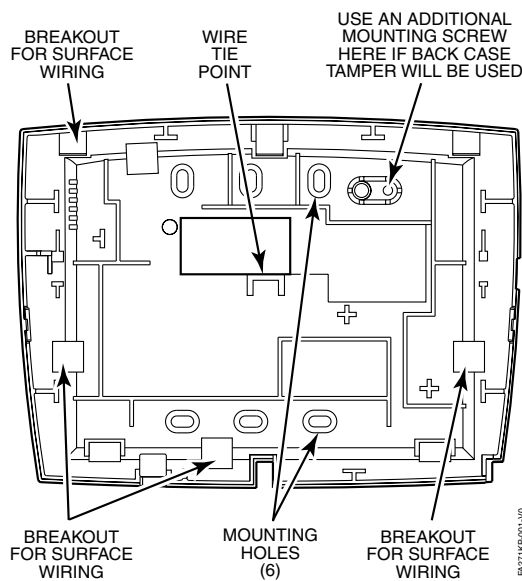

Figure 2. Wiring Entry (Case Back)
For tamper protection, an additional mounting screw must be used in the case back, as shown in Figure 2.
Note: If you wish to tamper-protect the keypad for removal from the wall, use an additional mounting screw in the tamper hole in the case back (see Figure 2 for location).
3. Pass the four power/data wires and zone wires through the opening in the case back. If surface wiring is being used, wiring may be routed through the top or the bottom left-side breakout in the case back. See Figure 2. The breakouts must be punched out using a screwdriver before mounting the case back. If desired, wires may be strain-relieved to the wire tie point on the inside of the case back with a tie wrap (not supplied).